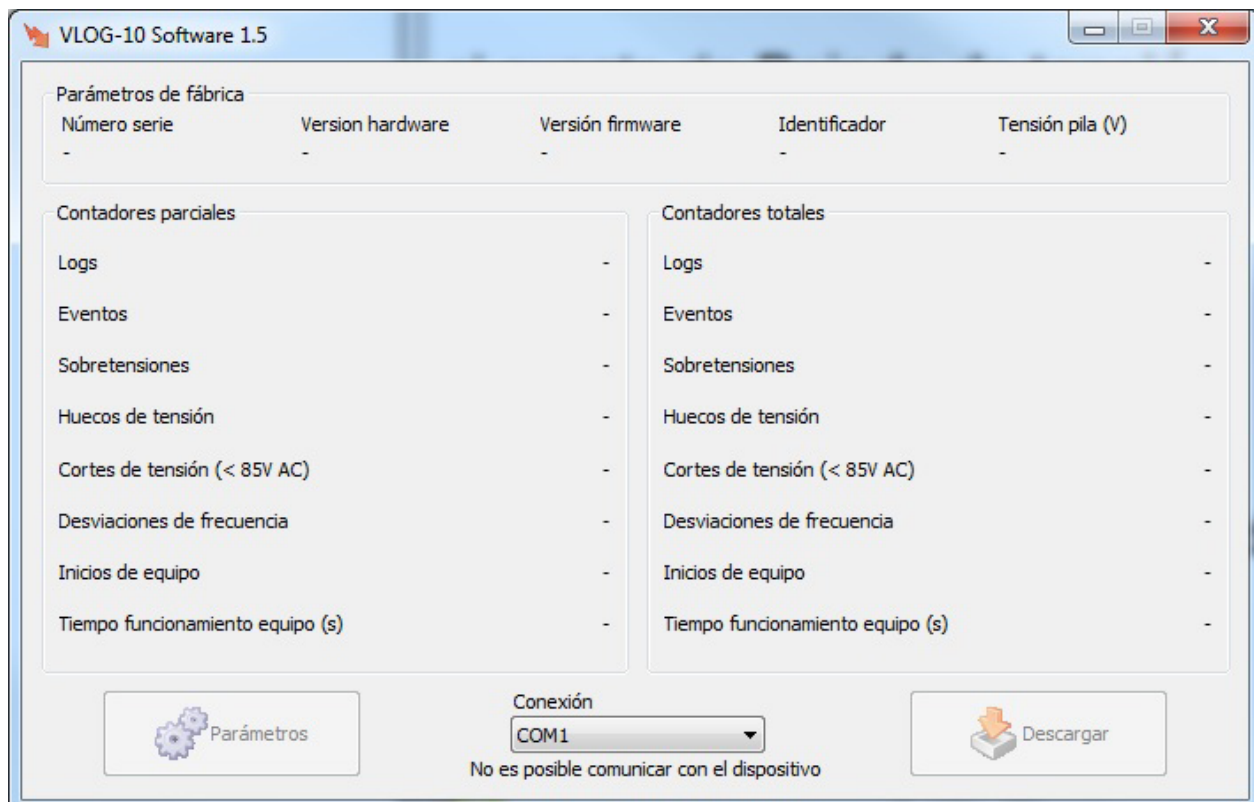

Figure 8:Main screen, device not connected.
When the driver and software have been installed, the screen in **Figure 8** is displayed when running the configuration software.
2.- In the **Connection** parameter on the home screen, **Figure 8**, select the COM port to which the device is connected.